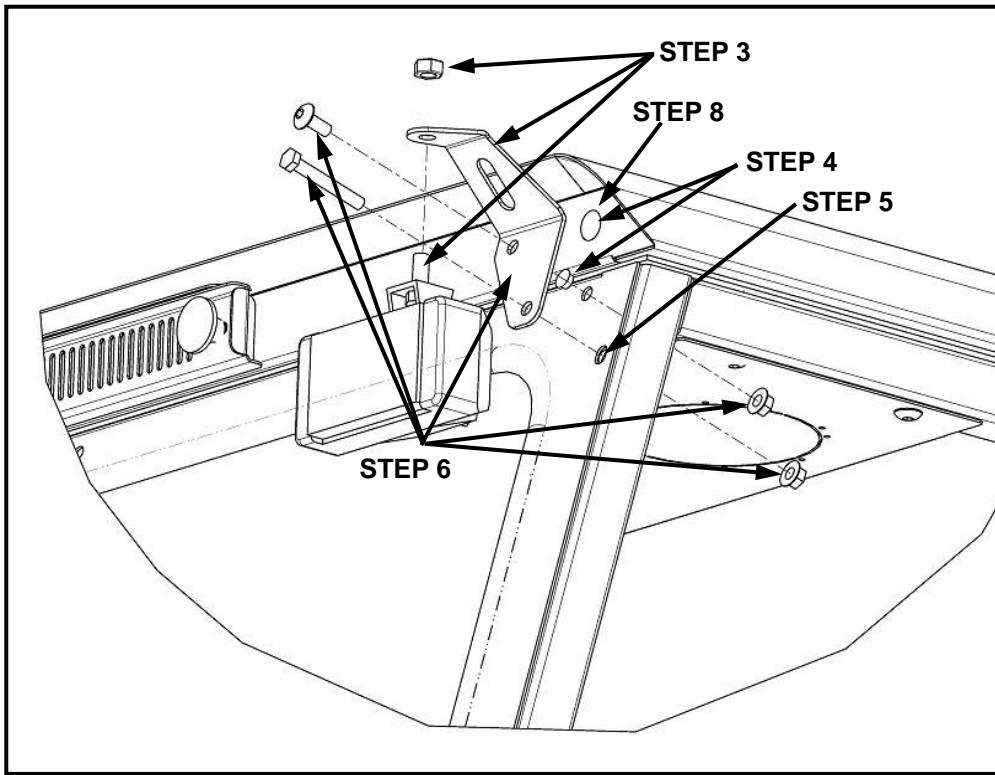

Figure 3
3. For front of cab mounting, secure LH light to LH mount bracket using (1) M10 x 16mm long button head bolt and (1) M10 flange nut. The stainless steel M10 x 25mm hex bolt, M10 lock washer and M10 standard nut, supplied with light, will not be used. See figure 3.
4. Remove 3/8" hole plug and 5/8" hole plug from LH front window panel and roof panel. See figure 3.
5. Remove (1) 5/16" x 2.00" long button head bolt from location as shown in figure 3.
6. Secure light and bracket to (LH) front panel using (1) 5/16" x 2-1/4" long hex head bolt, (1) 5/16" x 3/4" long button head bolt and (2) 5/16" flange nuts. (Note: If mirror kit A-11643 is to be installed, use the 5/16" x 2-1/2" long bolts supplied with mirror kit instead of 2-1/4" long bolts).
8. Install (1) 5/8" snap grommet into each 5/8" hole on each side of roof panel as shown in Figure 3.